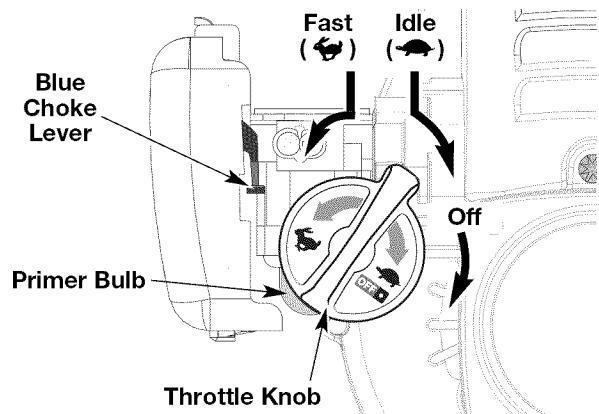
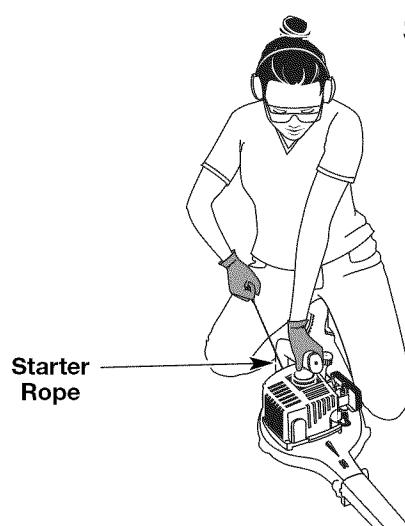

Fig. 2
Fig. 4
WARNING: Avoid accidental starting. Make sure you are in the starting position when pulling the starter rope (Fig. 4). To avoid serious injury, the operator and unit must be in a stable position while starting.
2. Fully press and release the primer bulb 10 times, slowly. Some amount of **fuel should be visible in the primer bulb** (Fig. 2) and fuel lines. If you can't see fuel in the bulb, press and release the bulb as many times as it takes before you can see fuel in it.
4. Place the unit in the starting position (Fig. 4). Move the throttle knob to the fast position (Fig. 2).
IF... The engine fails to start after a couple attempts, place the blue choke lever in Position 2 and move the throttle knob to the fast position (Fig. 2). Pull the starter rope briskly 3 to 8 times. The engine should start. If not, repeat.
1. To turn off the blower, move the throttle knob all the way to the right, past the idle position (Fig. 2) until it clicks. Make sure you move the knob into the furthest right detent in order to turn the unit off (Fig. 2).